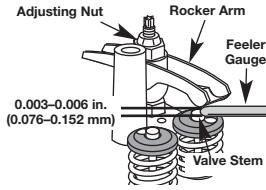

Fig. 47
- a. Turn the adjusting nut using a 5/16 inch (8 mm) wrench or nut driver (Fig. 47).